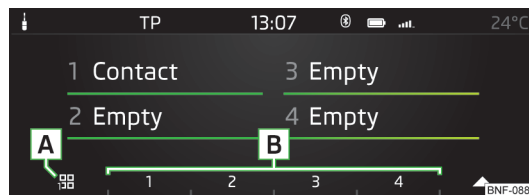

Fig. 115
- Press the function button » Fig. 115 repeatedly to select the desired group.
- To start **connection establishment** press the function button of the desired contact » Fig. 115.